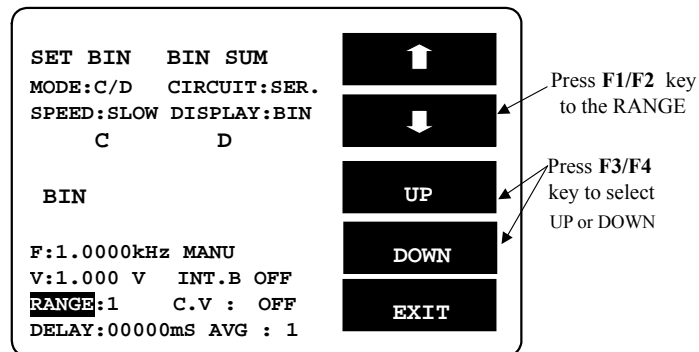

Figure 8-10
- Press F3 or F4 key to select UP or DOWN value within 1~4 range shown as Figure 8-10 below.